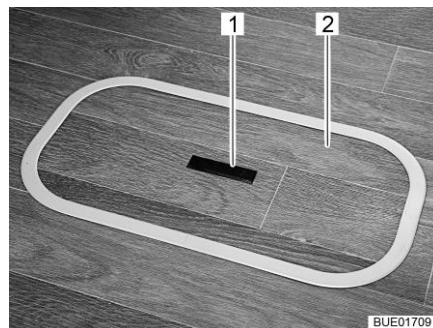
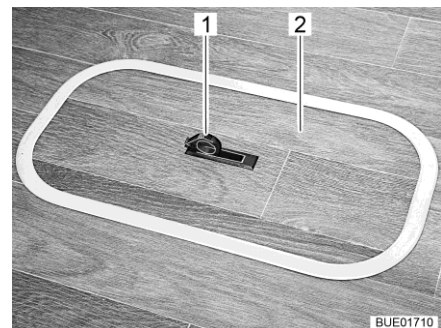

Fig. 69 Floor compartment cover
Fig. 70 Floor compartment cover
- Push one side of the grip plate (Fig. 69,1) downwards. The handle (Fig. 70,1) swivels upwards.
- Remove the cover (Fig. 69,2 or Fig. 70,2) upwards.